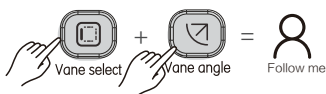

Figure 3.16
1) When the unit is in the Cool or Heat mode, press  and  at the same time to start the Follow Me function. The screen will display the  icon (see Figure 3.16);